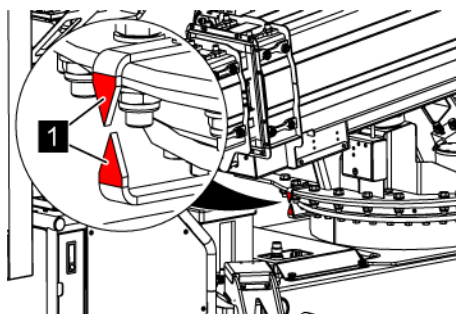

Fig. 187: Rotation indicator
10. → Swivel the platform in the direction of the transport position so that both arrows (Fig. 187/1) on the rotation indicator are aligned with each other.